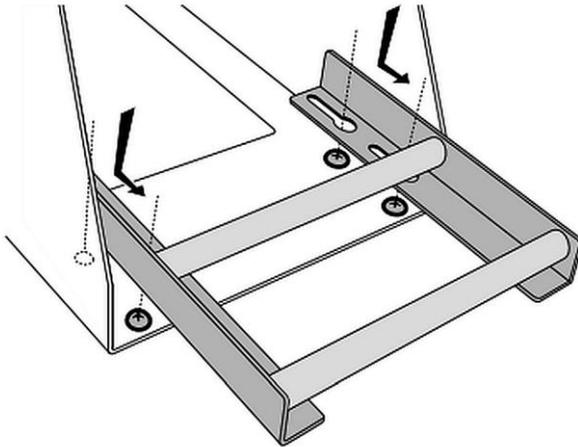

Fig. 3
3. Holding elements together, place them on 4 screw heads (Fig. 3).